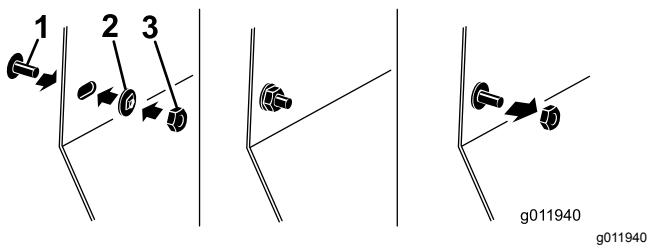

**Figure 4**
- Install the side panel with the retained fastener to the machine (Figure 4).